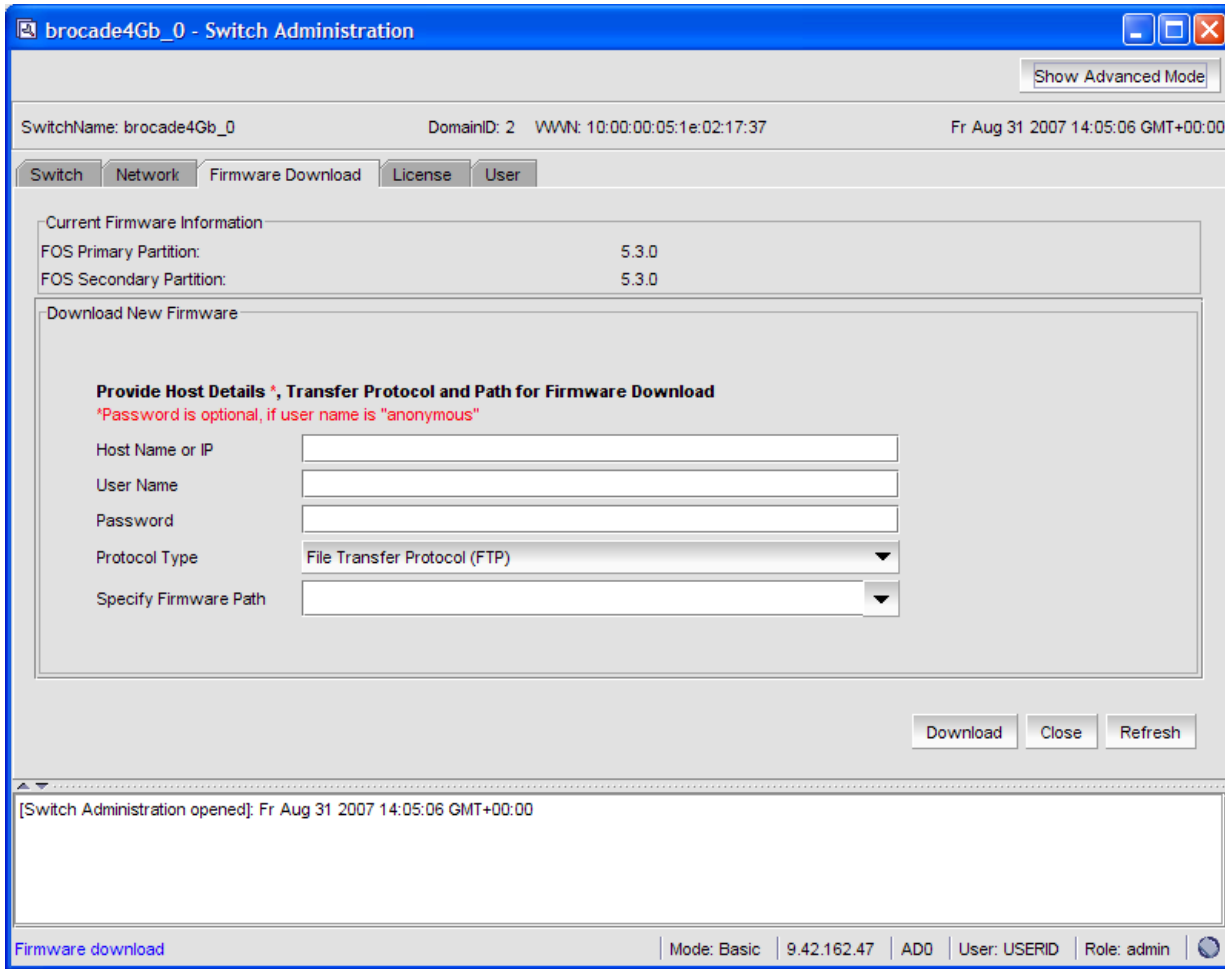

Figure 3-32 Save config
3. Save current configuration as per Figure 3-32. Go to the **Configure** → **Upload/Download** subtab for saving and proceed with the next step.